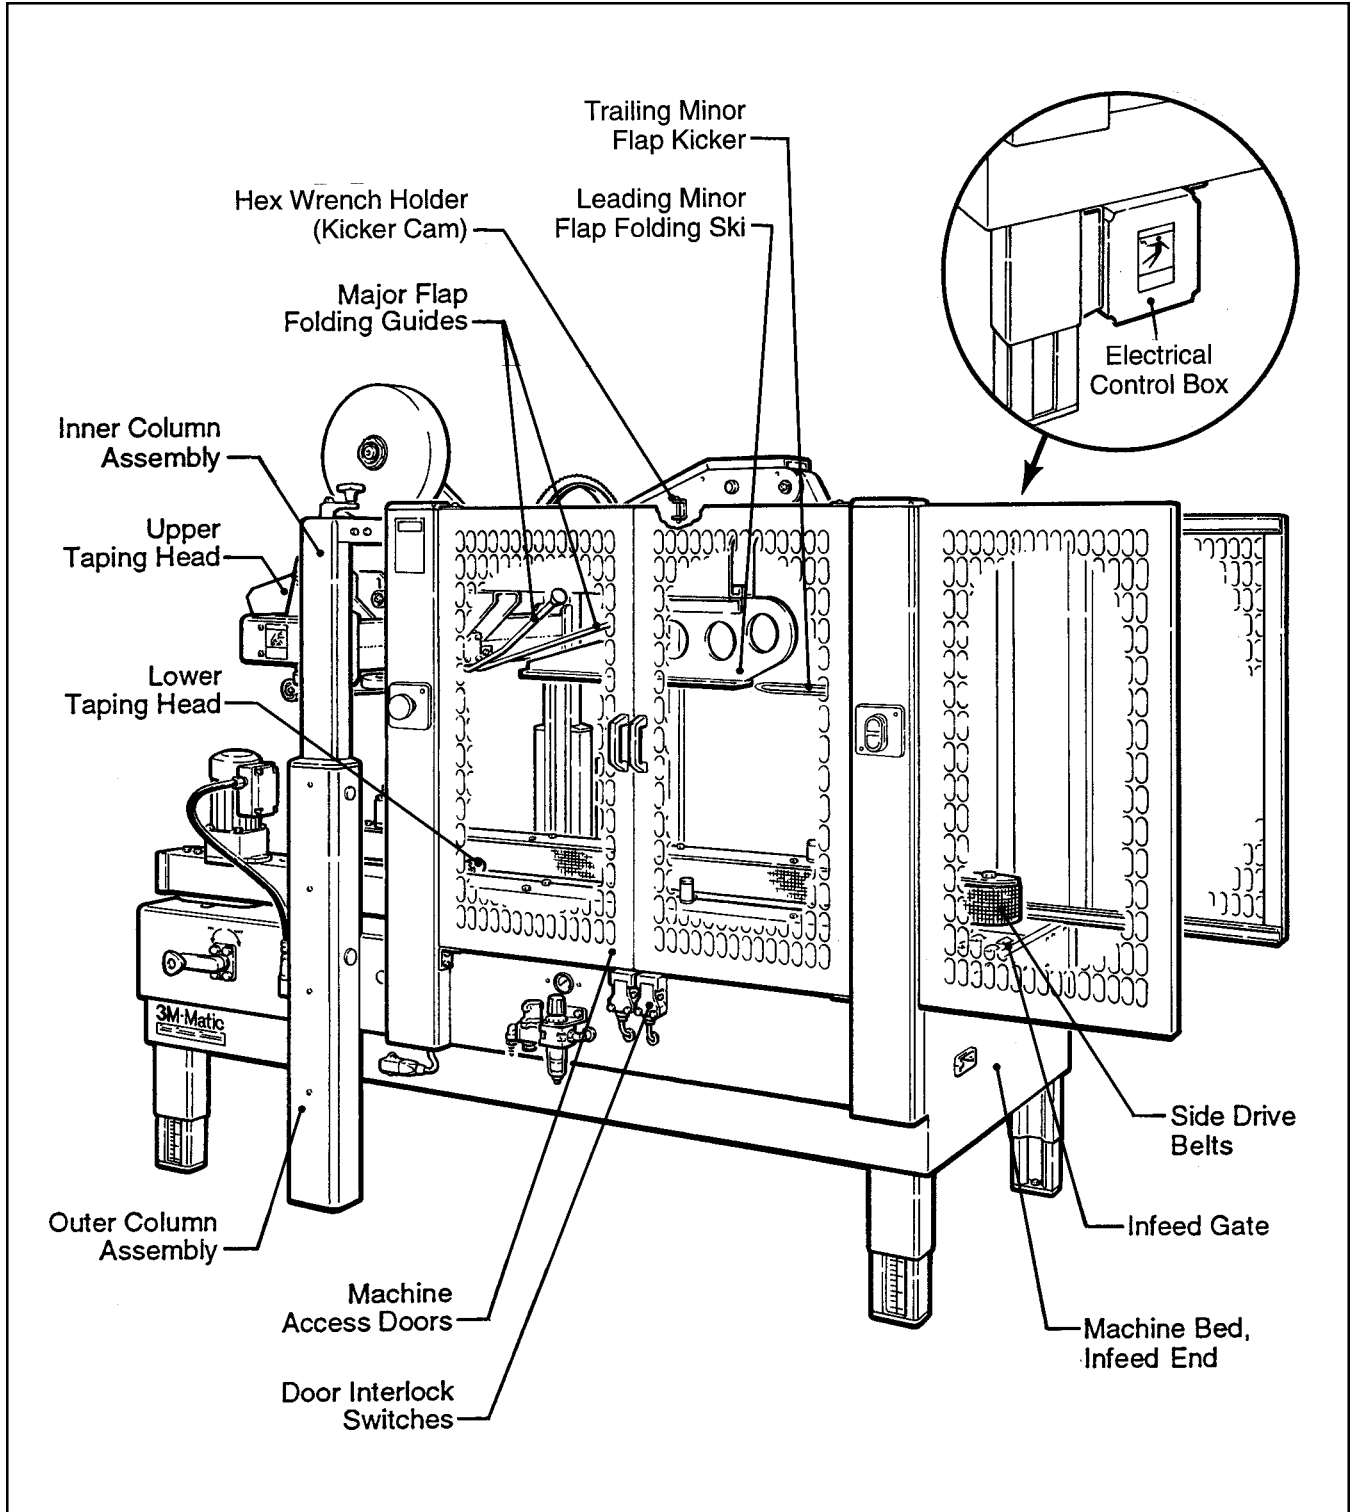

Figure 3-1 – Case Sealer Components
The following instructions are presented in the order recommended for setting up and installing the case sealer. Following them step by step will result in an installation in your production line that best utilizes the many features built into the case sealer. Refer to Figure 3-1 and 3-2 to identify the various components and controls of the machine.
14. Electrical connection and controls – the electrical control box shown in Figure 3-1, contains the "On/Off" switch with pre-set breaker and can be located on either side of the machine frame for operator convenience. A standard three conductor power cord with plug is provided at the back of the electrical control box for 115 Volt, 60 Hz, 3.8 Amp electrical service. The receptacle providing this service shall be properly grounded. Before the power cord is plugged into 115 Volt, 60 Hz outlet, make sure red "Off" button is depressed and that all packaging materials and tools are removed from the machine. **Do not plug electrical cord into outlet until ready to run machine.**
Refer to Figure 3-1 and 3-2 to acquaint yourself with the various components and controls of the 800af case sealer. Also see Figures 3-1 and 3-2 in Section II for taping head components.
9. Both the upper and lower taping heads utilize extremely sharp tape cut-off knives. The knife is located under the orange knife guard which has the "WARNING – SHARP KNIFE" label. Before loading tape, refer to Figures 3-1 and 3-2 in Section II to identify the knife location. Keep hands out of these areas except as necessary to service the taping heads.
**Note:** 5 mm hex key wrench is supplied with machine and should be kept in wrench holder on side of upper frame. See Figure 3-1.